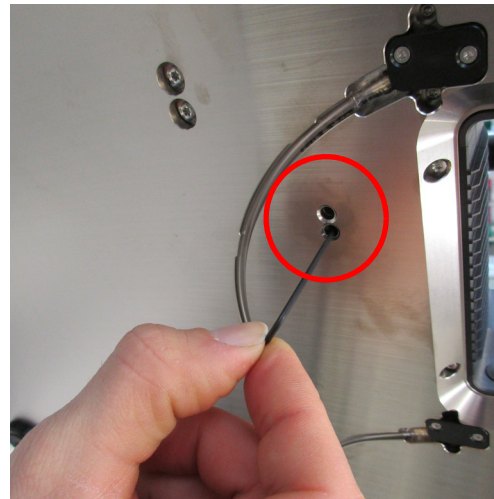

Fig. 5-6: Insertion of Torx key
2. Insert the transport safety lock T6 Torx key into one of the two small holes next to the module bay, as shown in Fig. 5-6.